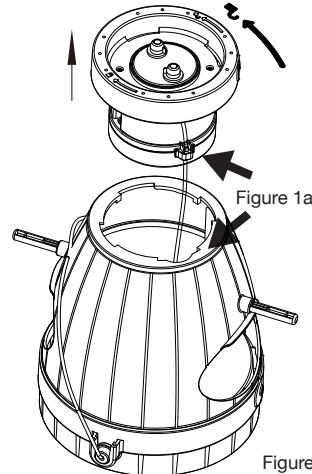

Figure 1
2. Turn battery housing counter clockwise and lift out battery assembly (Figure 1). Please note location of notch in the housing and battery cable retaining clip (Figure 1a).
First ensure that the pump is completely submerged in water and grab the both sides of the Hanging Bird Feeder and shake gently for about 10 seconds, repeat as needed, this will help dislodge any air bubbles that may be in the air filter/pump assembly (Figure 1).